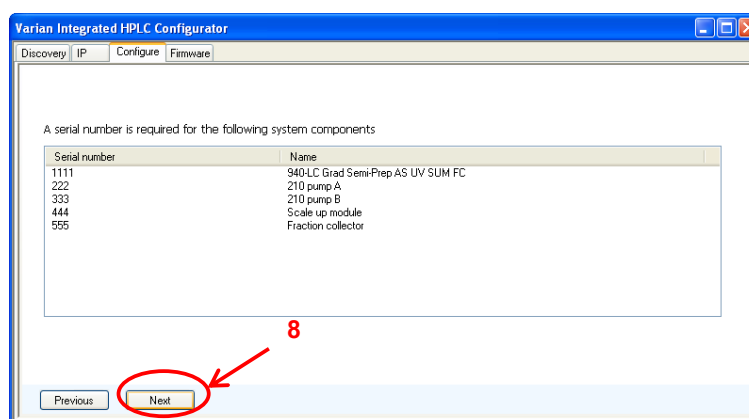

Figure 25: Serial Number page.
6. The final window shown is the Update window. Click Update (9) and the configuration on the 940-LC is updated (Figure 25).